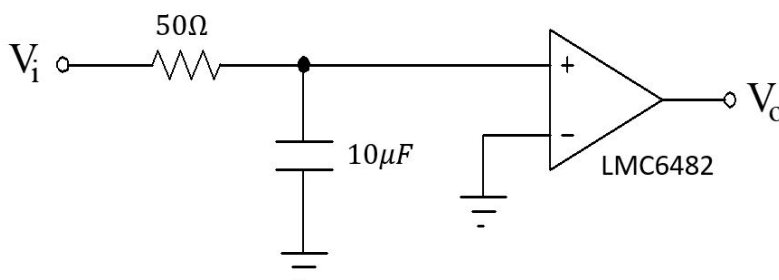

Figure PL2.1
- Generate the netlist for the circuit of Fig. PL2.1. Then use SPICE to determine the voltage transfer characteristic (VTC) V_o versus V_i for $V_i = (-10\text{mV to } 10\text{mV in } 10\mu\text{V steps})$. Again, for the LMC6482 op amp, use the SPICE model given on-line on the course website in the file 'lmc6482.mod', and bias it with $\pm 5\text{ V}$ supplies. Note the warning in the model file and make sure to set g_{min} in the .options line of your netlist.
- (e) Now replace the $50\ \Omega$ resistor in Fig. PL2.1 with a $10\ \text{G}\Omega$ resistor and determine the resultant effective value of offset voltage using SPICE. From this value, determine the input bias current into the positive terminal of the op amp assumed by the 'lmc6482.mod' model.
- (f) What percent error in offset voltage estimation (mV) does the circuit of Fig. PL2.1 incur with the $50\ \Omega$ resistor if one neglects bias current? (Use the value of bias current determined in part (e).)